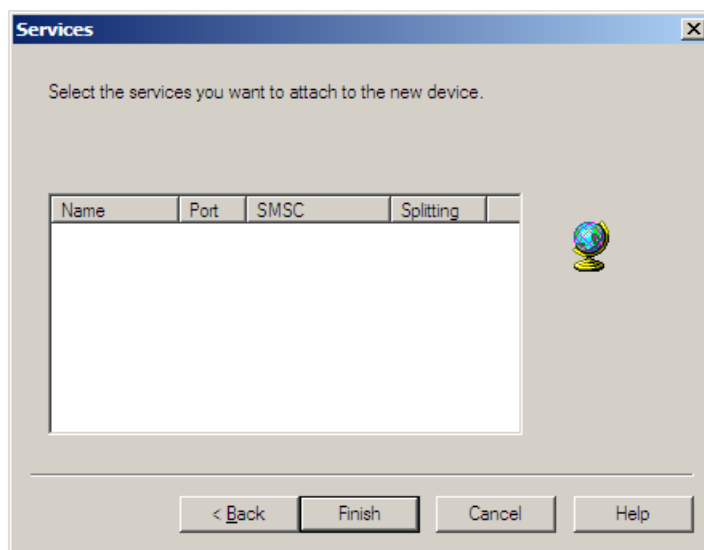

Figure 84. Services Dialog
14. Click **Next** after entering information into the Initialization dialog. The Services dialog as shown in Figure 84 is displayed.